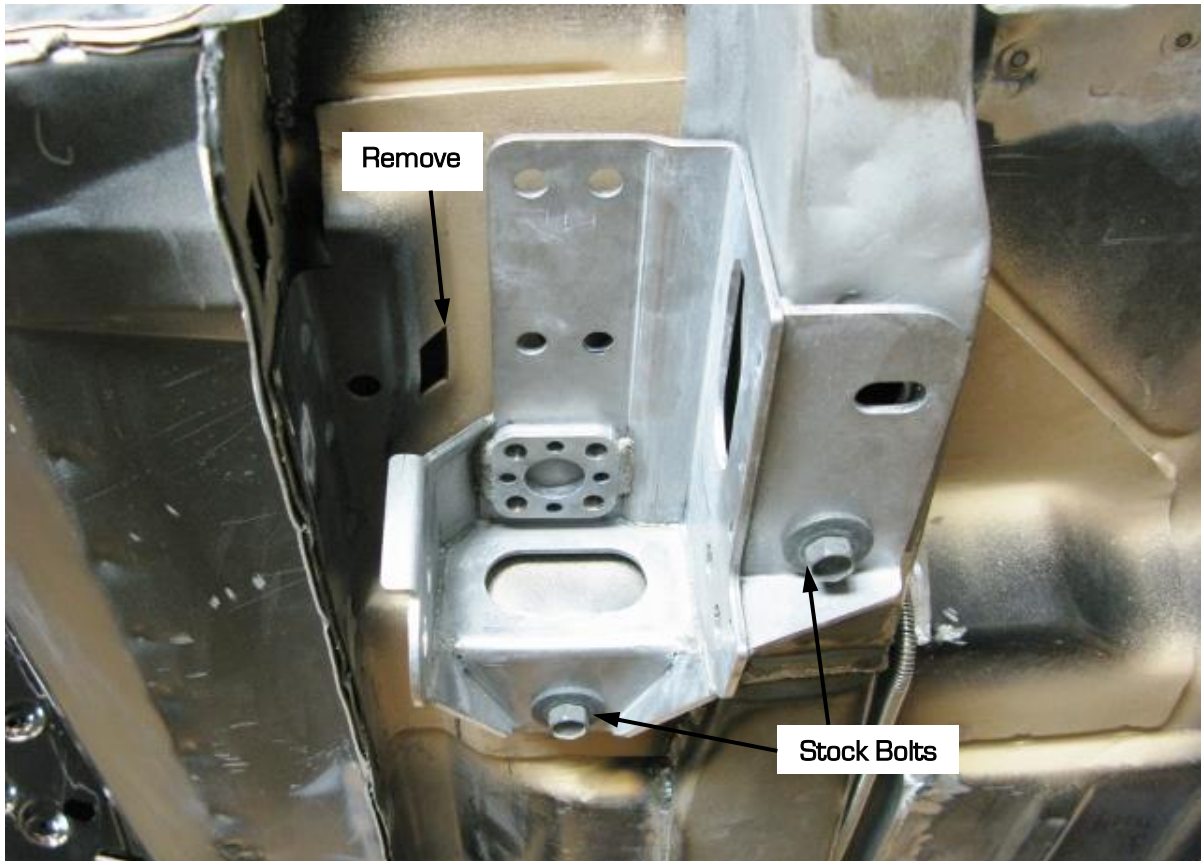

Figure 4 - Position Leaf Spring Pocket Assembly
10. Install the DSE pocket assemblies with your leaf springs in place of the factory leaf spring pockets using two of the three factory bolts (Figure 4). The U-clip for the 3rd factory bolt that is not used can be removed.